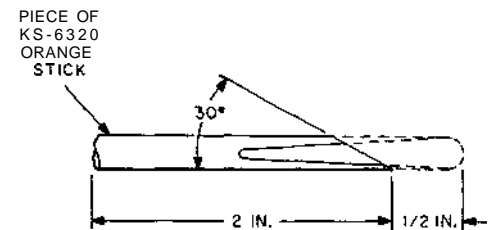
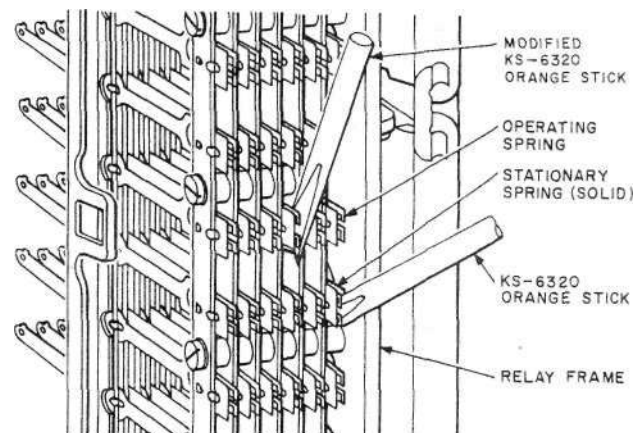
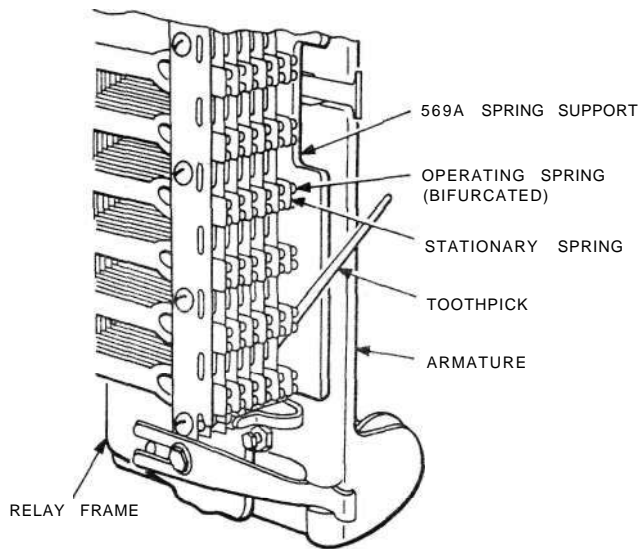

Fig. 49—Method of Preparing Blocking Tool
Fig. 50—Method of Blocking Individual Contacts on 263- and Similar-Type Relays
Fig. 51—Method of Blocking Individual Contacts Adjacent to Frame of 245- and 254-Type Relays
5.09 Blocking Individual Contacts on 245-, 254-, 263-, and 264-Type Relays and 216- and 217-Type Switches: Prepare a blocking tool as follows. Cut off a piece approximately 2-1/2 inches long from one end of a KS-6320 orange stick. Approximately 1/2 inch from the pointed end of this piece, cut off the point at an angle of approximately 30 degrees as indicated in Fig. 49. To block individual contacts closed, insert the modified orange stick between the bifurcated spring and the adjoining solid spring, as shown in Fig. 50. Take care that the tool is tight enough so operation of the relay will not dislodge it and other contacts are not closed. On the row of contacts nearest the frame on 263- and 264-type relays, insert the orange stick between the bifurcated spring and the frame. On the row of contacts nearest the frame of 245- and 254-type relays, use of the modified orange stick is not feasible. To block these contacts closed, place a 569A spring support in place between the inside row of contacts and the frame as shown in Fig. 51 and block the individual contacts closed by inserting a toothpick between the bifurcated spring and the spring support.